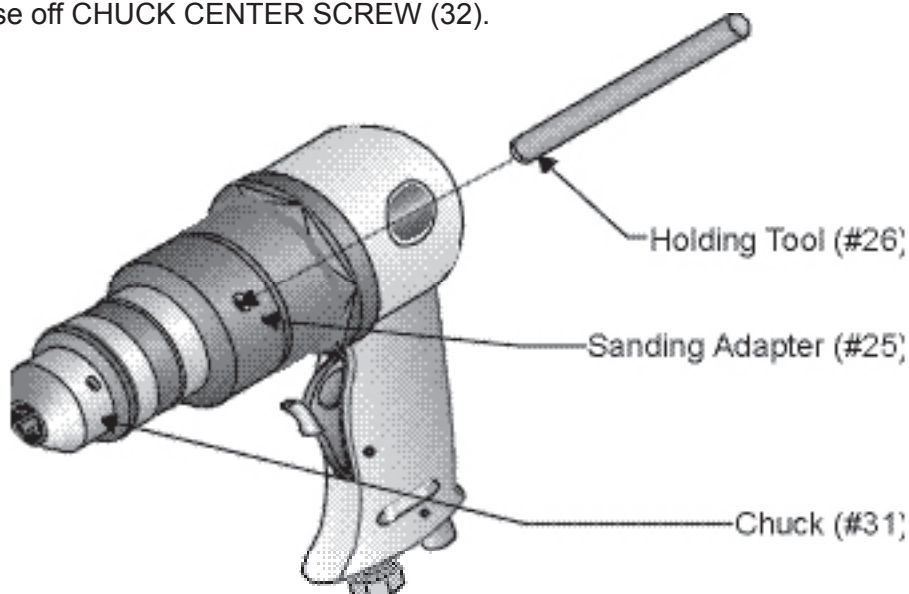

Figure 1 — Installing the Holding Tool
Step 1: Place the HOLDING TOOL (26) into one of two holes in the SANDING ADAPTER (25) as shown in Figure 1.
Step 2: Open up the jaws of CHUCK (31) wide enough, insert screwdriver into chuck center and loose off CHUCK CENTER SCREW (32).